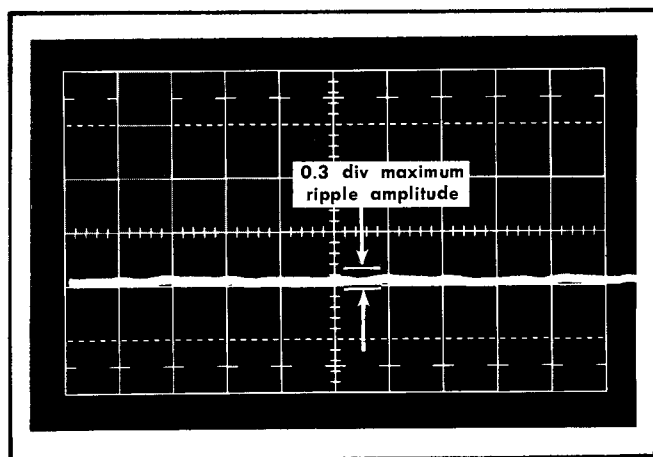

Fig. 7-5. Typical display of power supply ripple.
c. Connect the  $1\times$  probe to the  $-19$  Volt test point and observe the Test Oscilloscope display for not more than 3 mV of ripple (.3 div); see Fig. 7-5.